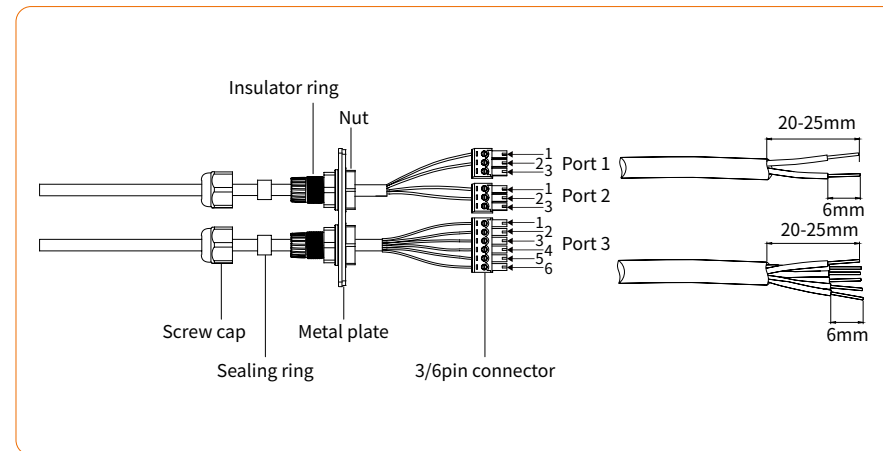

Figure 4-23
- ① Remove the COM2 plate in the bottom of the inverter with a cross screwdriver.
- ② Put the cable through the connector and connect to the terminal in the following order: screw cap, sealing ring, insulator, metal plate, nut and 3/6pin connector, as shown in Figure 4-23: